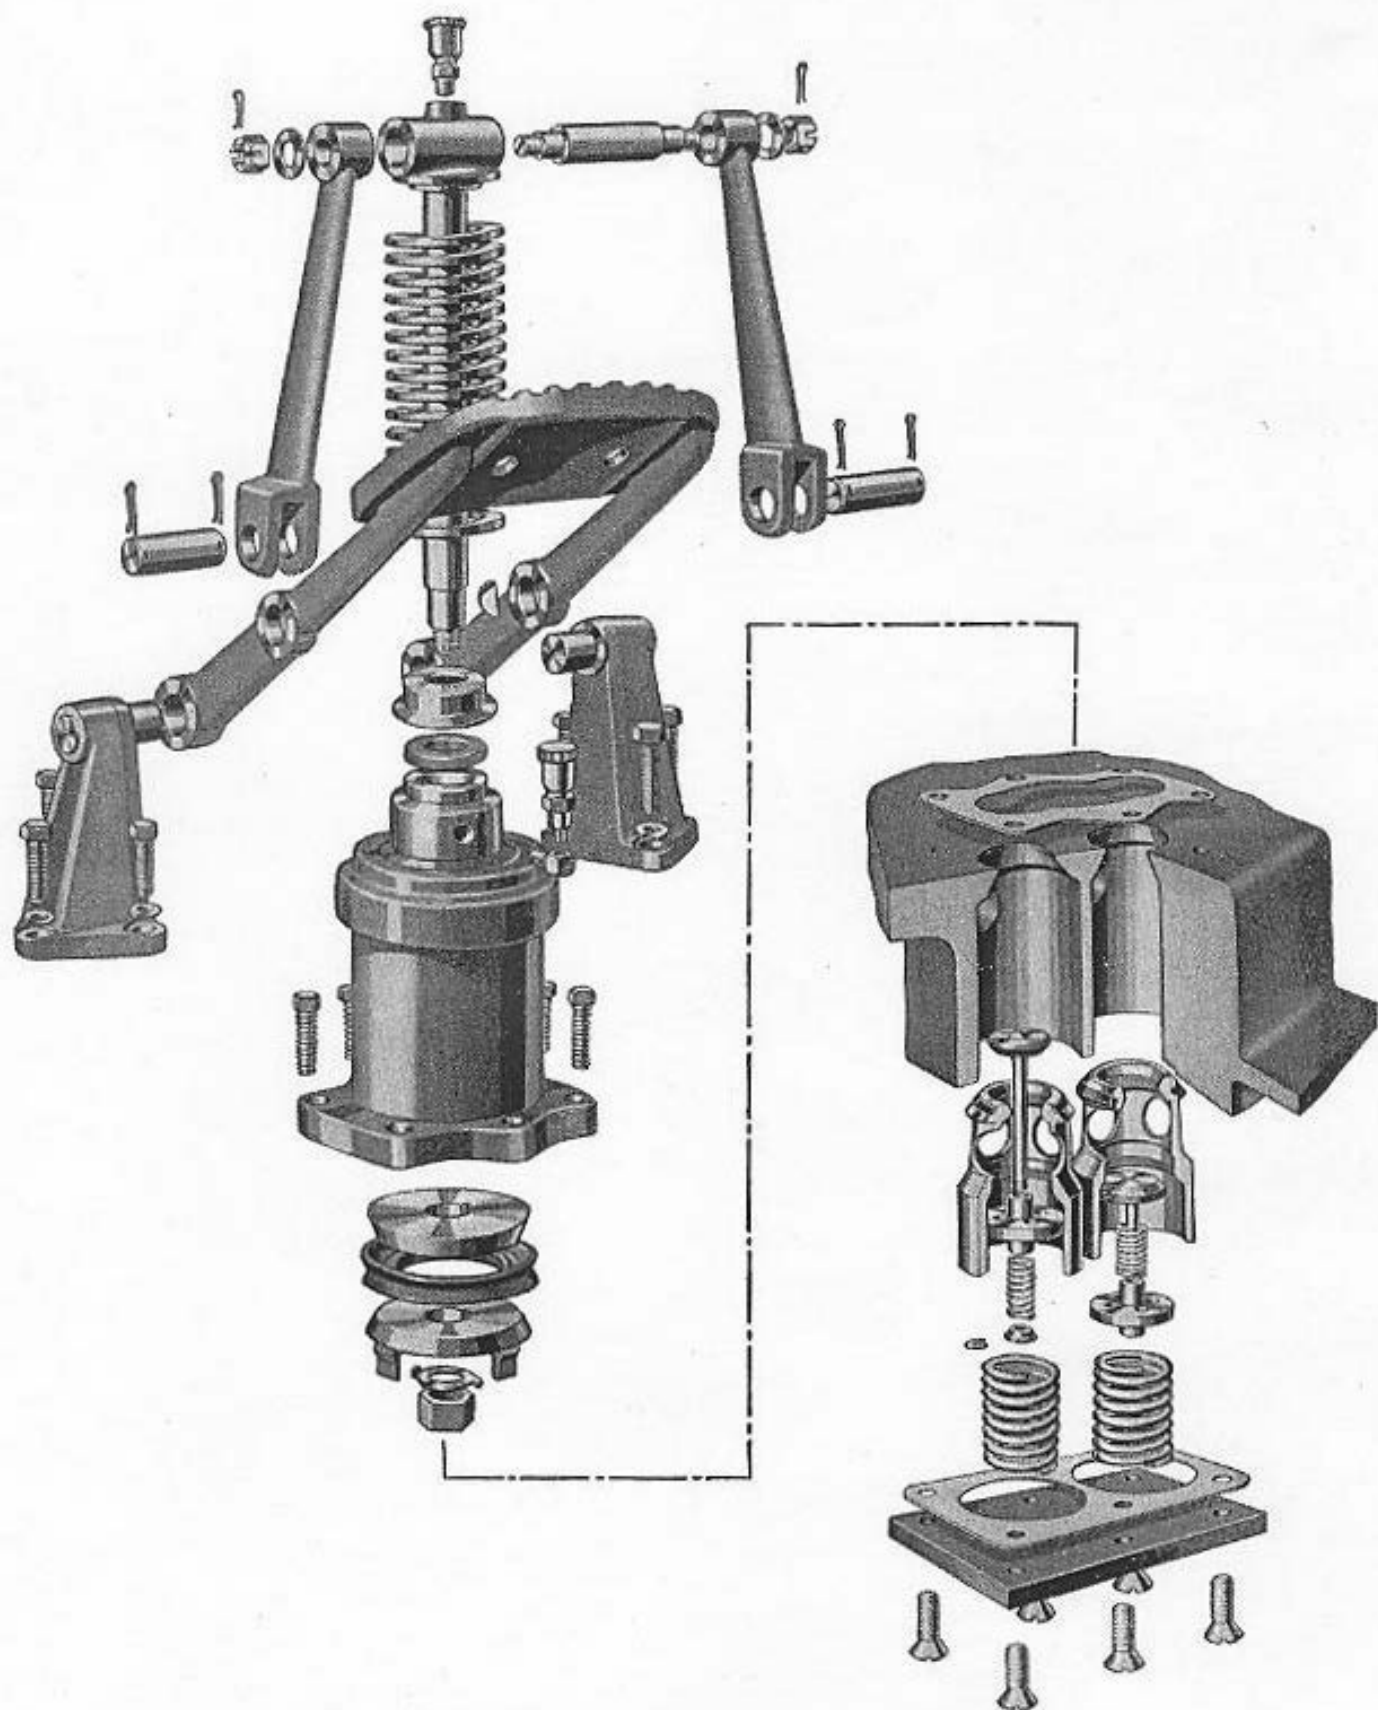

Figure 40—Exploded view of oil pump, pump pedal, and valves
28. **INTAKE VALVES**—Strip the intake valve and sleeve assemblies by compressing valve spring seat (299923-1) and spring (299923-2) with the fingers and removing retainer (299922-6). Remove the seat, spring, valve guide (299922-2), and valve (299921) from sleeve assembly (299920-1). See Figure 40.
29. **OUTLET VALVES**—Stripping of outlet valve and sleeve assemblies requires no mechanical operations. Push outlet valve (299922-1) downward in sleeve assembly (299920-3) and guide (299922-2), spring (299923-2), and outlet valve (299922-1) will come out of the sleeve. See Figure 40.
Before reassembling, dip all parts such as pump valves, sleeves, guides and piston cups in oil mixture (OE-3533). Also coat all bearings and pivot pins with the same oil at the time of reassembling to assure adequate initial lubrication. Figure 40 is an exploded view of the oil pump, pedal, and valve parts.
2. **PUMP VALVES—OUTLET**—Turn the base upside down, dip outlet valve sleeve assemblies (299920-3) in oil mixture (OE-3533) and place them in clockwise holes (as viewed from bottom of base) of each pair of holes. See Figures 40 and 41. Dip outlet valve assemblies (299922-1), springs (299923-2), guides (299922-2), and sleeve springs (299922-5) in oil mixture (OE-3533) and place them in the three outlet sleeve assemblies in the order given.
10. PUMP PEDALS—Place a piston rod link pivot pin (299940-1) in the top of each piston rod (299938-1). Place two piston rod links (299940-6) on pivot pin, retaining each link with one flat washer (12-Z-22-274) and nut (299940-2). DO NOT tighten nuts at this time. See Figure 40.